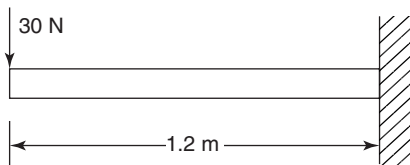

Figure 8.8
1. A cantilever of solid circular cross-section is subjected to a concentrated load of 30 N at its free end, as shown in Figure 8.8. If the diameter of the cantilever is 10 mm, determine the maximum stress in the cantilever. [367 MPa]
2. If the cantilever of Figure 8.8 were replaced with a tube of the same external diameter, but of wall thickness 2 mm, what would be the maximum stress due to the load shown in Figure 8.8. [421 MPa]